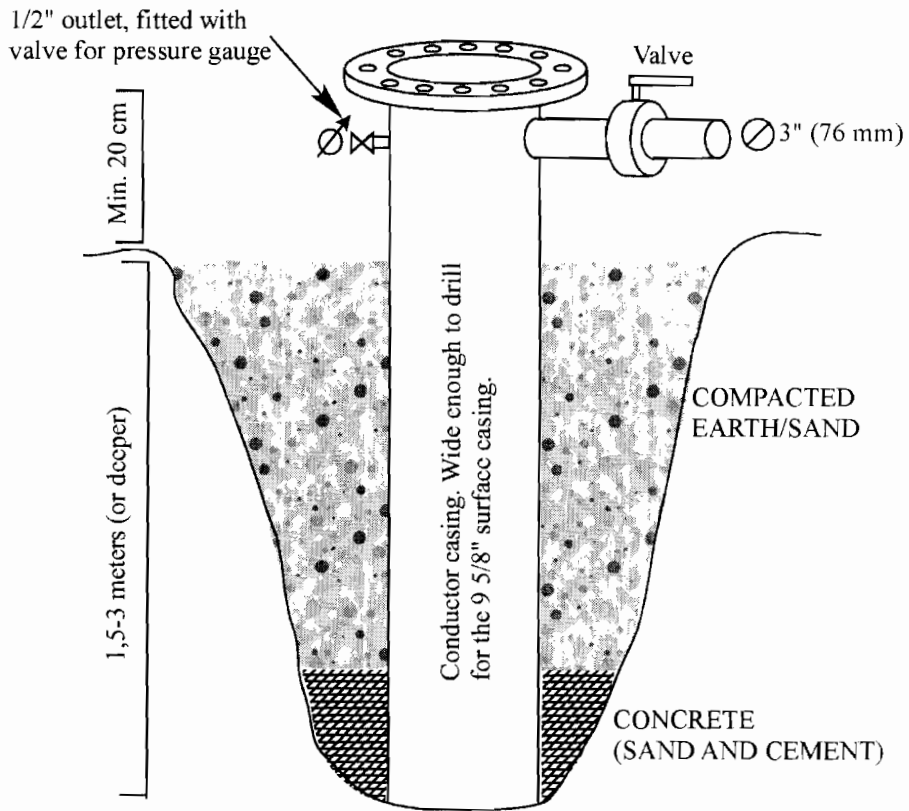

Figure 1. Placing and securing the conductor casing. Best to dig as deep as possible.
- Fill up the excavated hole around the conductor casing with excavated sand/gravel against the casing and compress the earth as possible without tilting the casing (see fig 1).